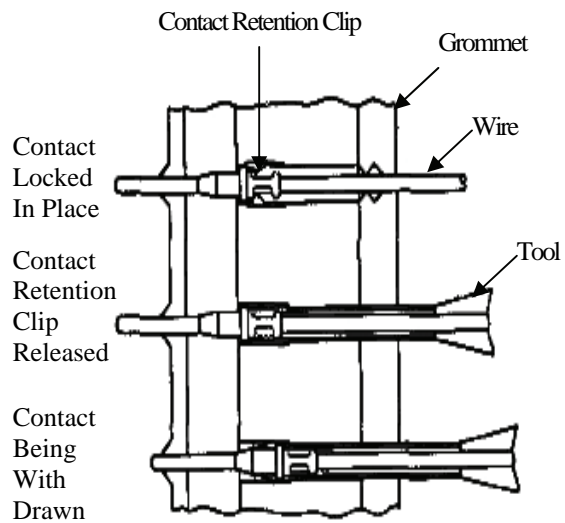

Figure 17. Unlocking Contact Mechanism
- d. Insert tool into contact cavity until tool tip bottoms against contact shoulder (Figure 17). A slight increase in resistance will be noticed just before the tool tip bottoms. This will spread the retention clip and release its hold on the contact.